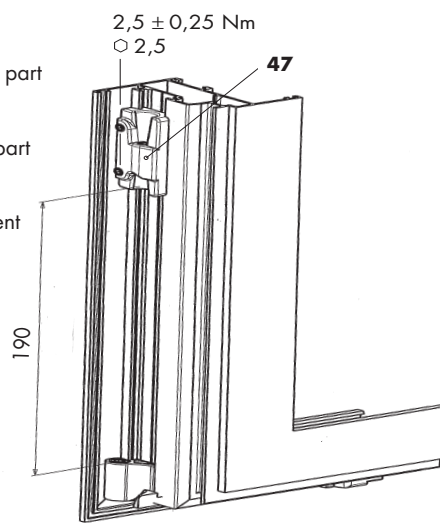

Fig. 3
7. Insert sash part BSU A0040 right/left (47) into the sash groove and secure it (fig. 3).
11. Position sash part BSU A0040 right/left (47) as shown in the adjacent diagram (fig. 3) and tighten with torque 2.5 ± 0.25 Nm.